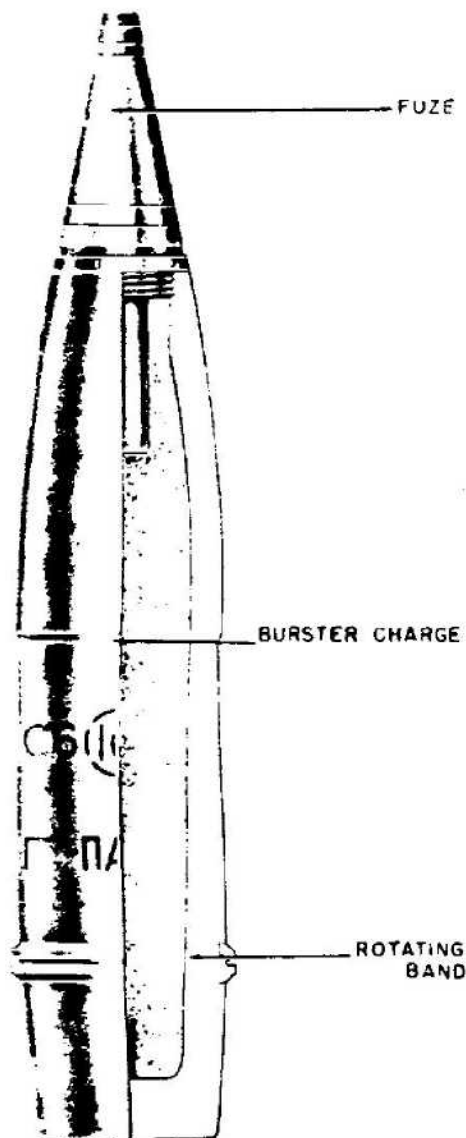

Figure 443—H. E. Projectile for 100-mm Howitzer, 10-cm Sprgr. (Dopp. Z.) 311 (j)
**GERMAN NOMENCLATURE:** 10-cm Sprgr. (Dopp. Z) 311 (j). (See fig. 443.)